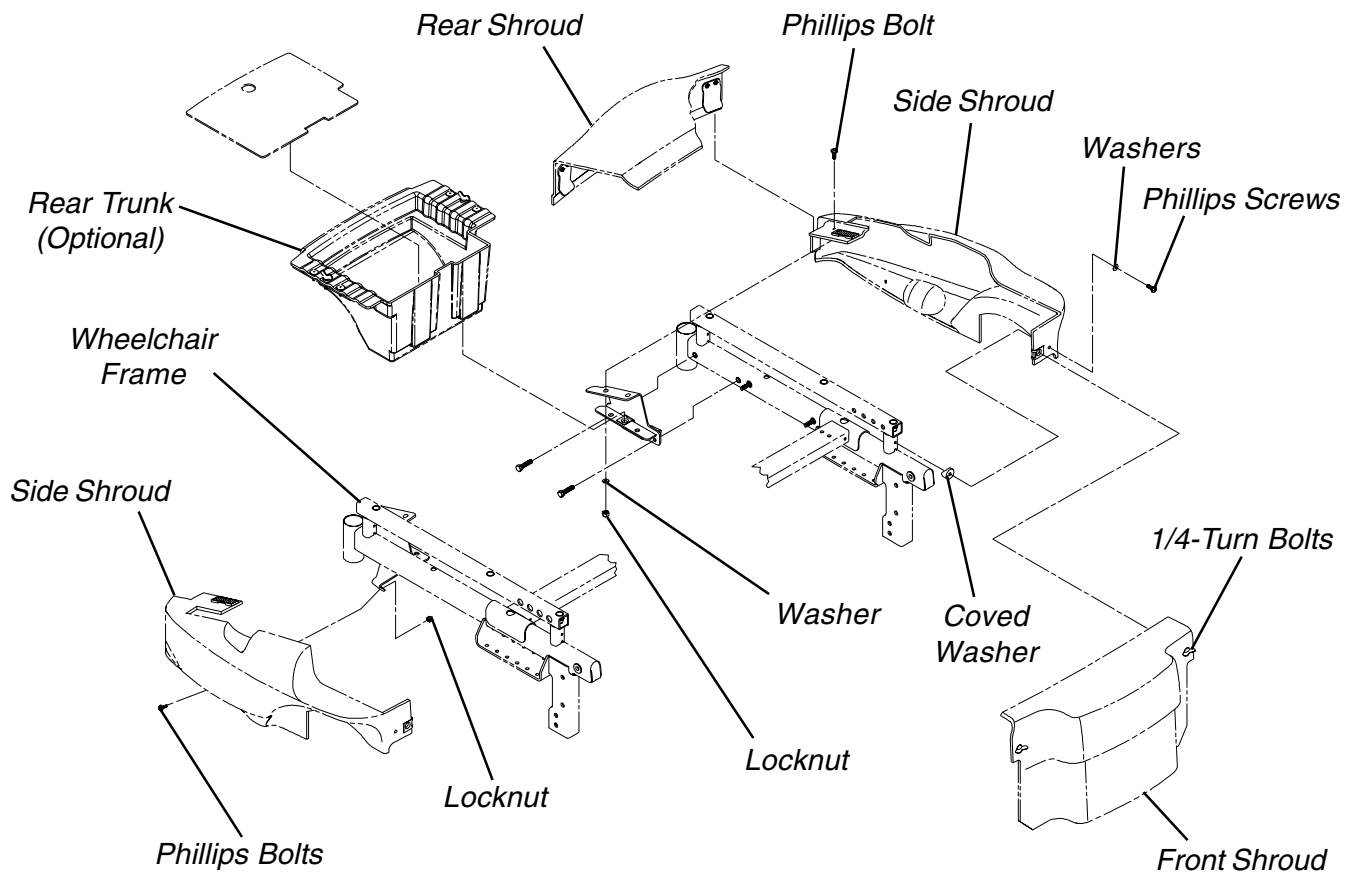

FIGURE 1 - REMOVING/INSTALLING SHROUDS
3. Perform one (1) of the following:
4. Remove the phillips screws, washer, and coved washers that secure side shroud to wheelchair frame. Refer to FIGURE 1 for phillips screw and washer locations.
5. Remove the phillips bolts, washers and locknuts that secure the side shroud to the wheelchair frame. Refer to FIGURE 1 for phillips bolt and locknut location.
3. Install the phillips bolt, washers and locknut that secure the side shroud to the wheelchair frame and tighten securely. DO NOT OVERTIGHTEN. Refer to FIGURE 1 for phillips bolt and locknut location.
4. Install the phillips screws, washers, and coved washers that secure the side shroud to the wheelchair frame and tighten securely. DO NOT OVERTIGHTEN. Refer to FIGURE 1 for phillips screw and washer locations.